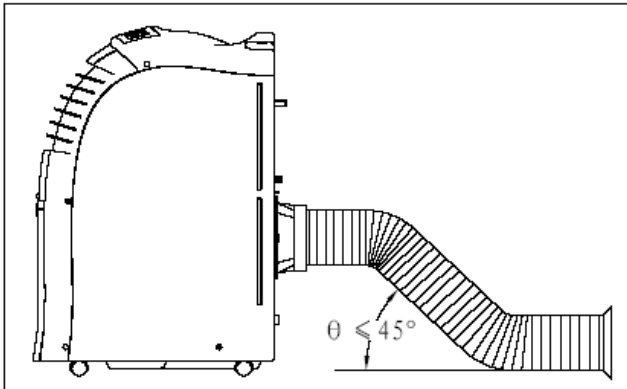
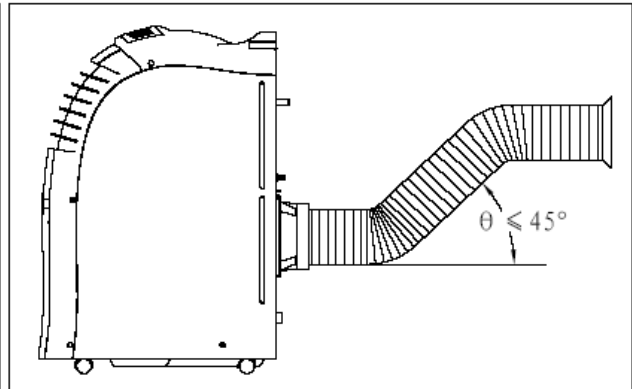

Fig. 6
Fig. 7
- Figure 6 and Figure 7 show correct mounting of the flexible exhaust hose. Figure 8 shows the incorrect mounting of the flexible exhaust hose